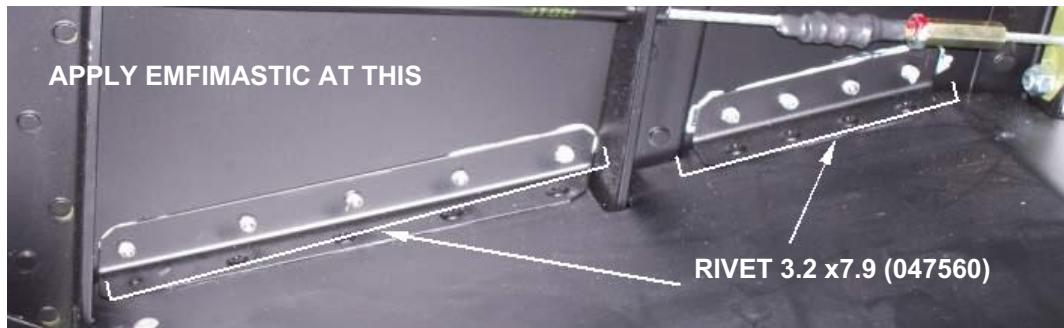
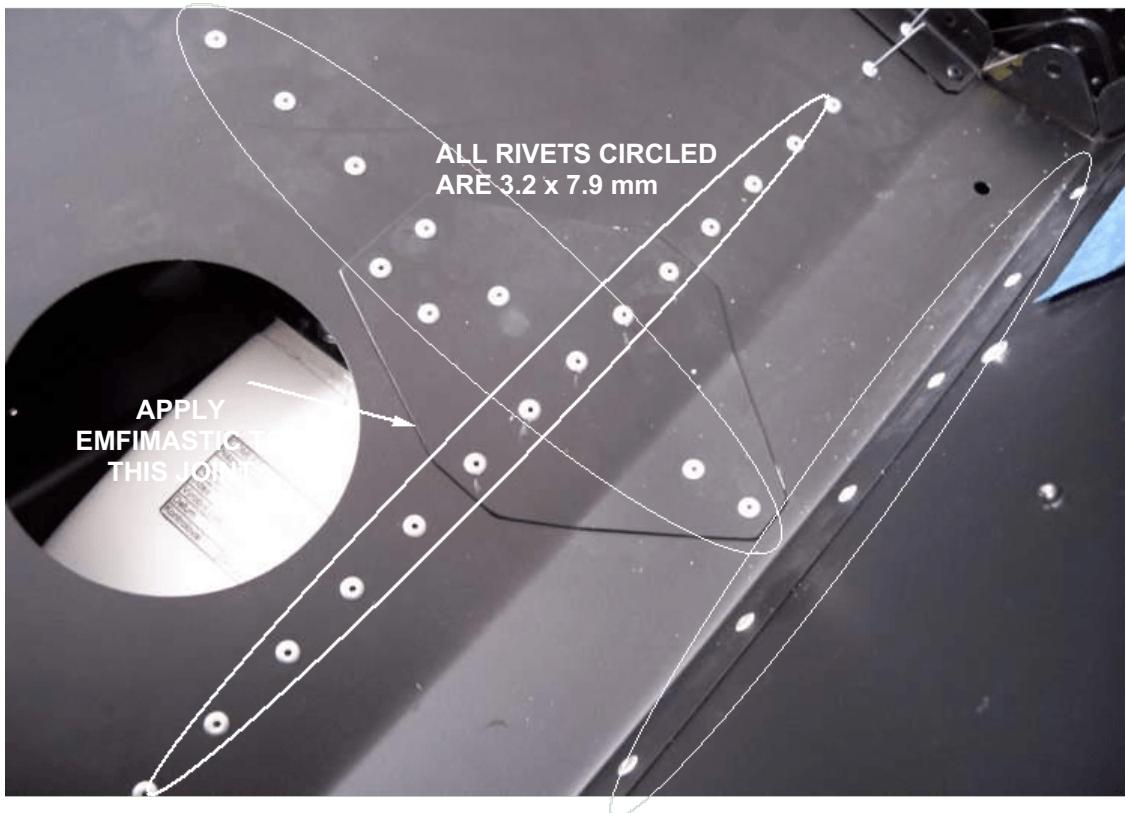

Figure 4a
Figure 5
A. Fit the seat pan and replace the rivets. Emfimastic should be applied only to the joint with the fuselage side (figure 4a) and between the doubler panel and the seat pan. Most rivets are 3.2 X 7.9mm. The exceptions are: six rivets (three each side) which fit through the spar cap and secure the control stick mounting brackets which are 3.2 X 11.1mm; another four (two each side) of the 3.2 X 11.1mm which fit at the inboard end of the row of rivets along the base of the pan and at the front inner end. Rivet the stick backstops in place using rivet 4 X 12.7mm Figure 5 and 6. See below for rivet part numbers